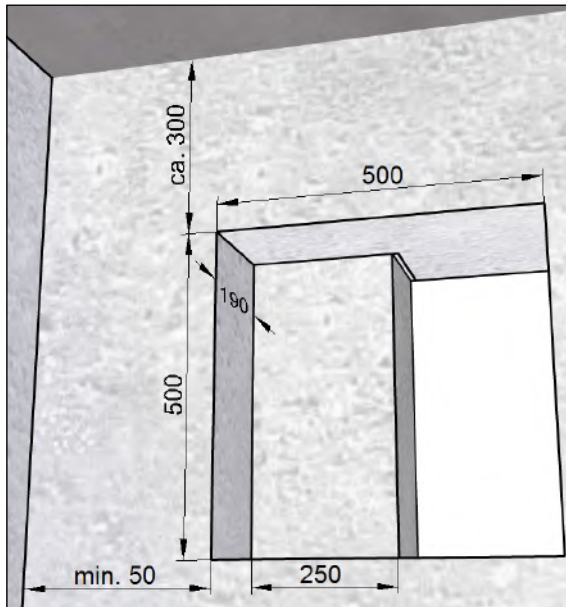

Fig. 8: Wall breakthrough for installation kit **without** filler piece, dimensions in millimetres
- Wall breakthrough with recess (see Fig. 8) for installation kit **without** filler piece M-WRG-M/Fü
- Wall breakthrough with recess (see Fig. 8 on page 17) for installation kit **without** filler piece M-WRG-M/Fü